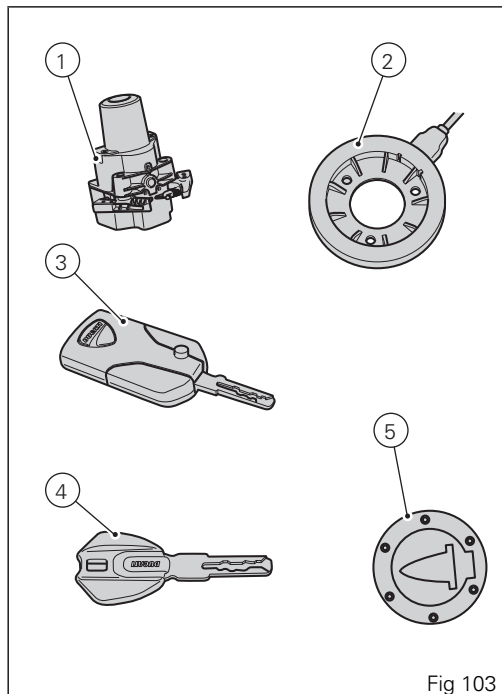

Fig 103
A key-On can be performed by pressing the red button (6) on the handlebar in the HANDS FREE ON/OFF position and in the presence of the active key (3, Fig 103).
Key-Off can be performed by pressing the red button (6) on the handlebar in the HANDS FREE ON/OFF position. It can be done also without the key (3, Fig 103) only if the motorcycle speed is equal to zero.
Key-On can be performed by pressing the button (7) on the Hands Free lock (1, Fig 103) and with the presence of the active key (3, Fig 103) .
Key-Off is performed by pressing the button (7) on the Hands Free lock (1, Fig 103) , also without the key (3, Fig 103) .
A key-On can be performed by pressing the red button (6) on the handlebar in the HANDS FREE ON/OFF position and in the presence of the passive key (4, Fig 103).
Key-Off can be performed by pressing the red button (6) on the handlebar in the HANDS FREE ON/OFF position. It can be done also without the key (4, Fig 103) only if the motorcycle speed is equal to zero.
Key-On is performed by pressing the button (7) on the Hands Free lock and with the presence of the passive key (4, Fig 103) .
Key-Off is performed by pressing the button (7) on the Hands Free lock (1, Fig 103) , also without the key (4, Fig 103) .
Key-On can be performed by pressing the button (7) on the Hands Free lock (1, Fig 103) without the presence of the keys (3, Fig 103) and (4, Fig 103) and entering the pin code on the instrument panel.